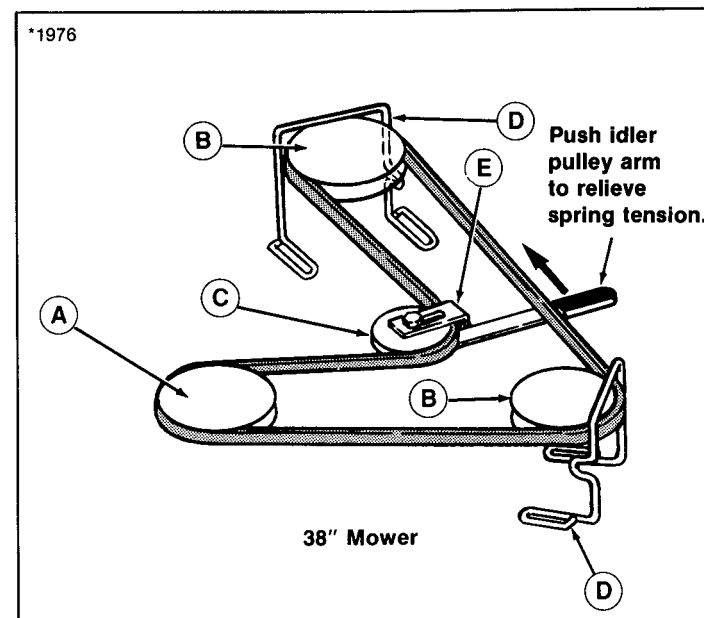

Figure 17. Mower Drive Belt Pattern
7. To install mower, reverse above steps. Check mower belt pattern as shown in figure 17.